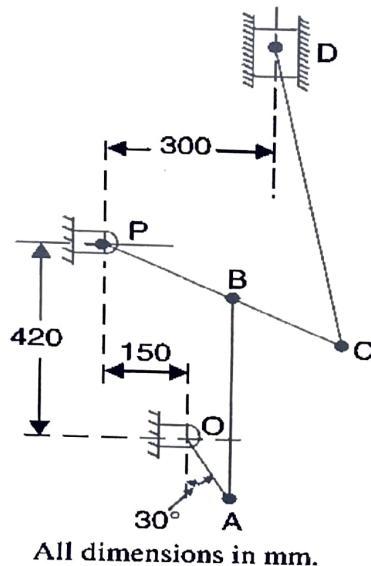

Fig. 2
- IV a. A flat belt drives a pulley, the angle of the lap being 120° . The belt is 100 mm wide and 6 mm thick. The density of belt material is 1000 kg/m^3 . If the coefficient of friction is 0.3 and the maximum stress in the belt should not exceed 2 MPa, find the maximum power that the belt can transmit and the corresponding speed of the belt. (10)
- IV b. Two gear wheels mesh externally and are to give a velocity ratio of 3 to 1. The teeth are of involute form; module = 5 mm, addendum = one module, pressure angle = 20° . The pinion rotates at 150 r.p.m. Determine: 1. The number of teeth on the pinion to avoid interference on it and the corresponding number of teeth on the wheel, 2. The length of path and arc of contact, 3. The number of pairs of teeth in contact, and 4. The maximum velocity of sliding. (10)
- Va. Fig. 2 shows a mechanism in which crank OA rotates uniformly at 200 r.p.m. in the clockwise direction. The various lengths are: OA = 150 mm ; AB = 450 mm ; PB = 240 mm ; BC = 210 mm ; CD = 660 mm. Determine the velocity of slider D using the Instantaneous center method and also compare answer with the relative velocity method for the mechanism given mechanism. (14)